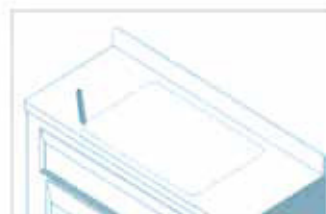

Figure 2 . Draw cutout line 1/2" in from sink outline.
3. Measure in 1/2" from the sink outline and draw a second line inside the first line. Use the compass to draw a 1-1/2" radius at each corner of the second line. This inside line will be the cutout line. See Figure 2.